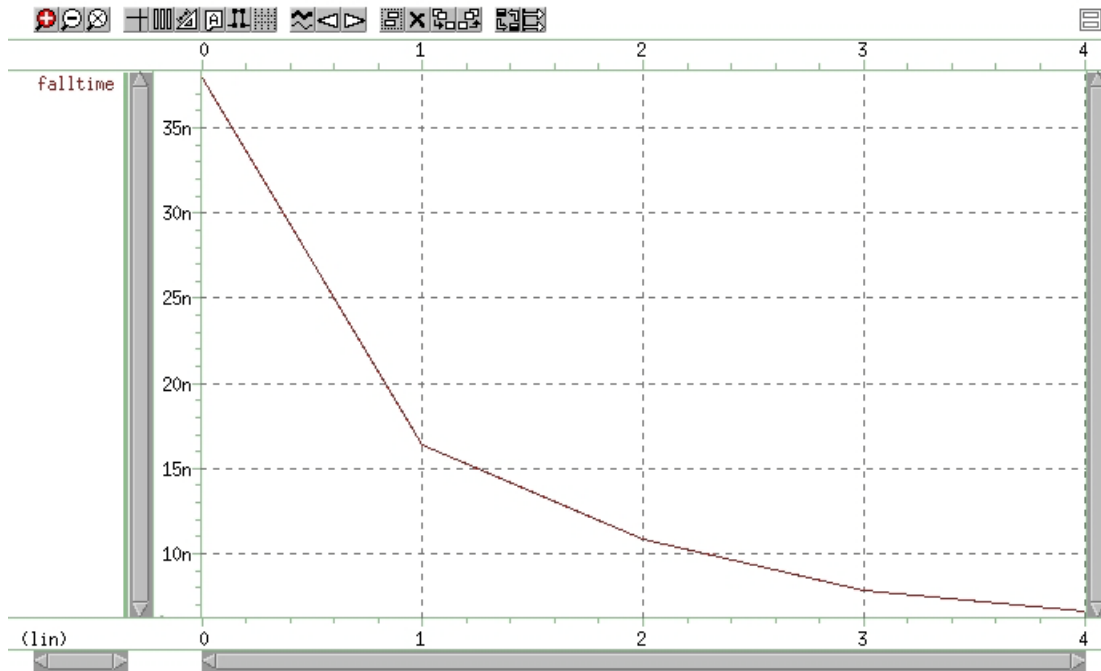

Figure 204 Plot of Measured Variable falltime vs. Amplifier Input Voltage
17. Left-click on the signal *falltime*. Drag and drop the selected signal into the WaveView panel. You should see a plot similar to the one shown in Figure 204 on page 1061.